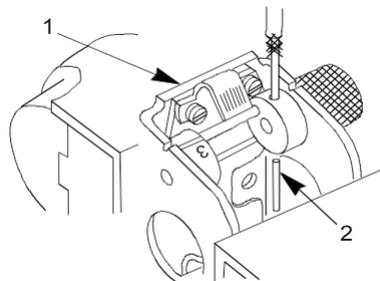

Figure 18. Rear Sight Assembly, Spring Pin.
27. Place rear sight assembly (Figure 18, Item 1) in protective jawed vise. Remove spring pin (Figure 18, Item 2) and discard.